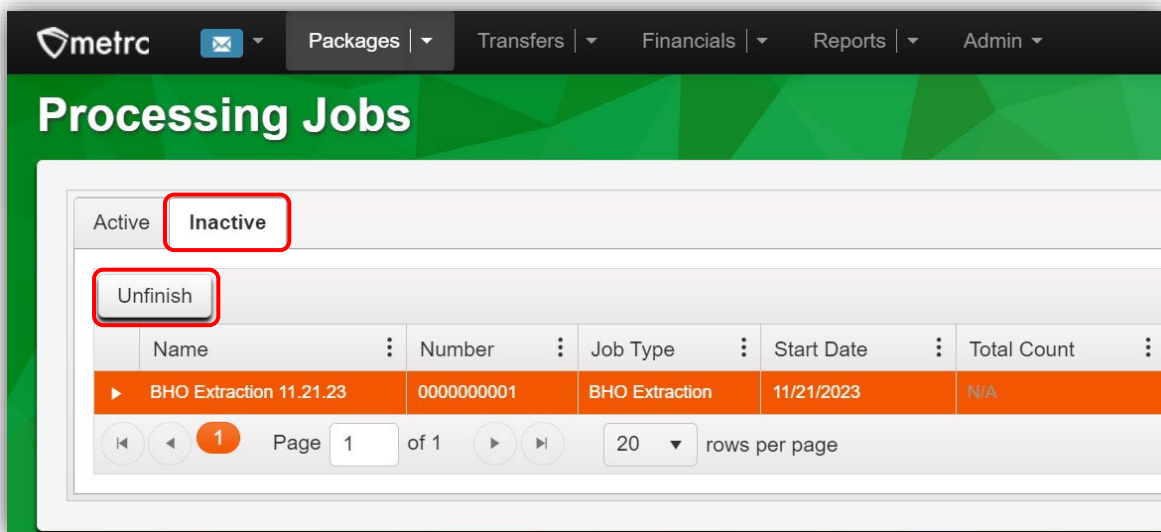

Figure 18: Accessing Unfinish Processing Job
- Go to the Processing Jobs grid found in the Packages drop-down on the Navigational Toolbar. Select the Inactive tab, highlight the Processing Job to unfinish, and then select the Unfinish button to access the Unfinish Processing Job action window – **see Figure 18.**